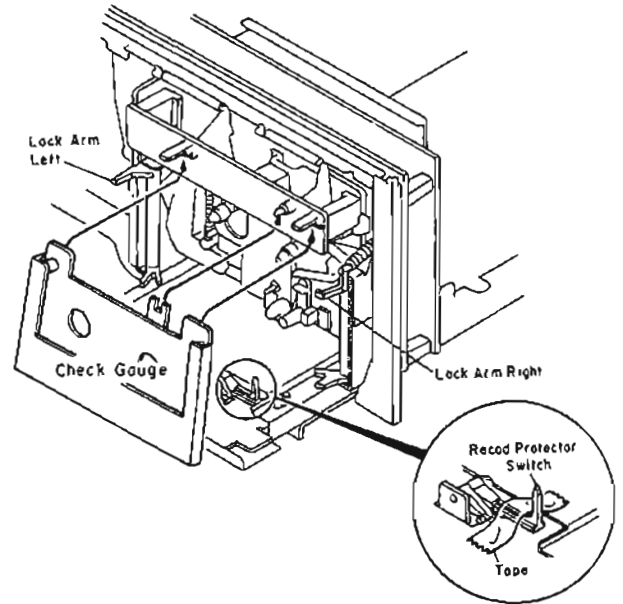

Fig. 2.2
(2) How to Load a Gauge
- (a) Tape the Record Protector switch as shown in Fig. 2.2 to allow easy loading of a Gauge.